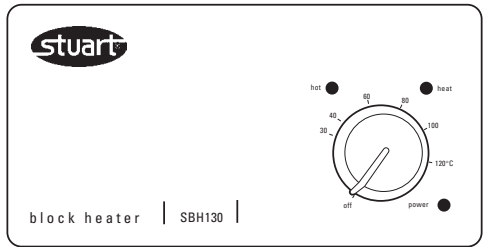

Figure 4 - analogue controls
2. The “power” light will illuminate - see figure 4.
3. The desired temperature may be set using the control knob labeled “heat” on the right hand side of the control panel – see figure 4. If turned to the position labeled “off” the heater will be switched off. Otherwise the scale around the knob will give guidance as to the set temperature.
4. The instrument will now begin to heat the aluminium blocks to this temperature and the light labeled “heat” on the control panel will illuminate – see figure 4.
5. If the temperature of the blocks exceeds 50°C the red light labeled “hot” will begin to flash to warn that the blocks are too hot to touch – see figure 4. This will continue even if the heater is turned off using the knob on the control panel so long as the instrument remains connected to the electricity supply and turned on with the switch at the rear.